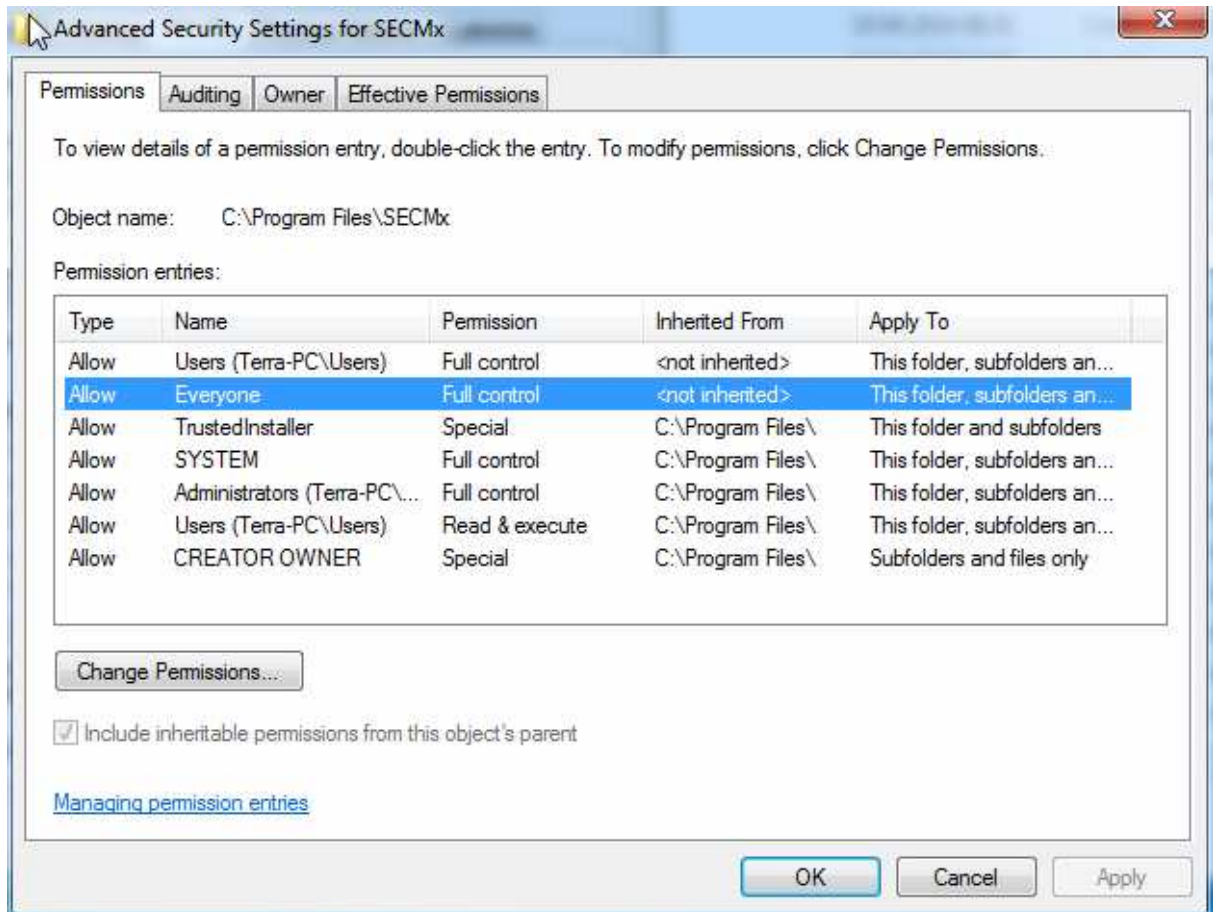

Fig. 3: Window for advanced setting of file access rights.
- The window in Fig. 3 appear.